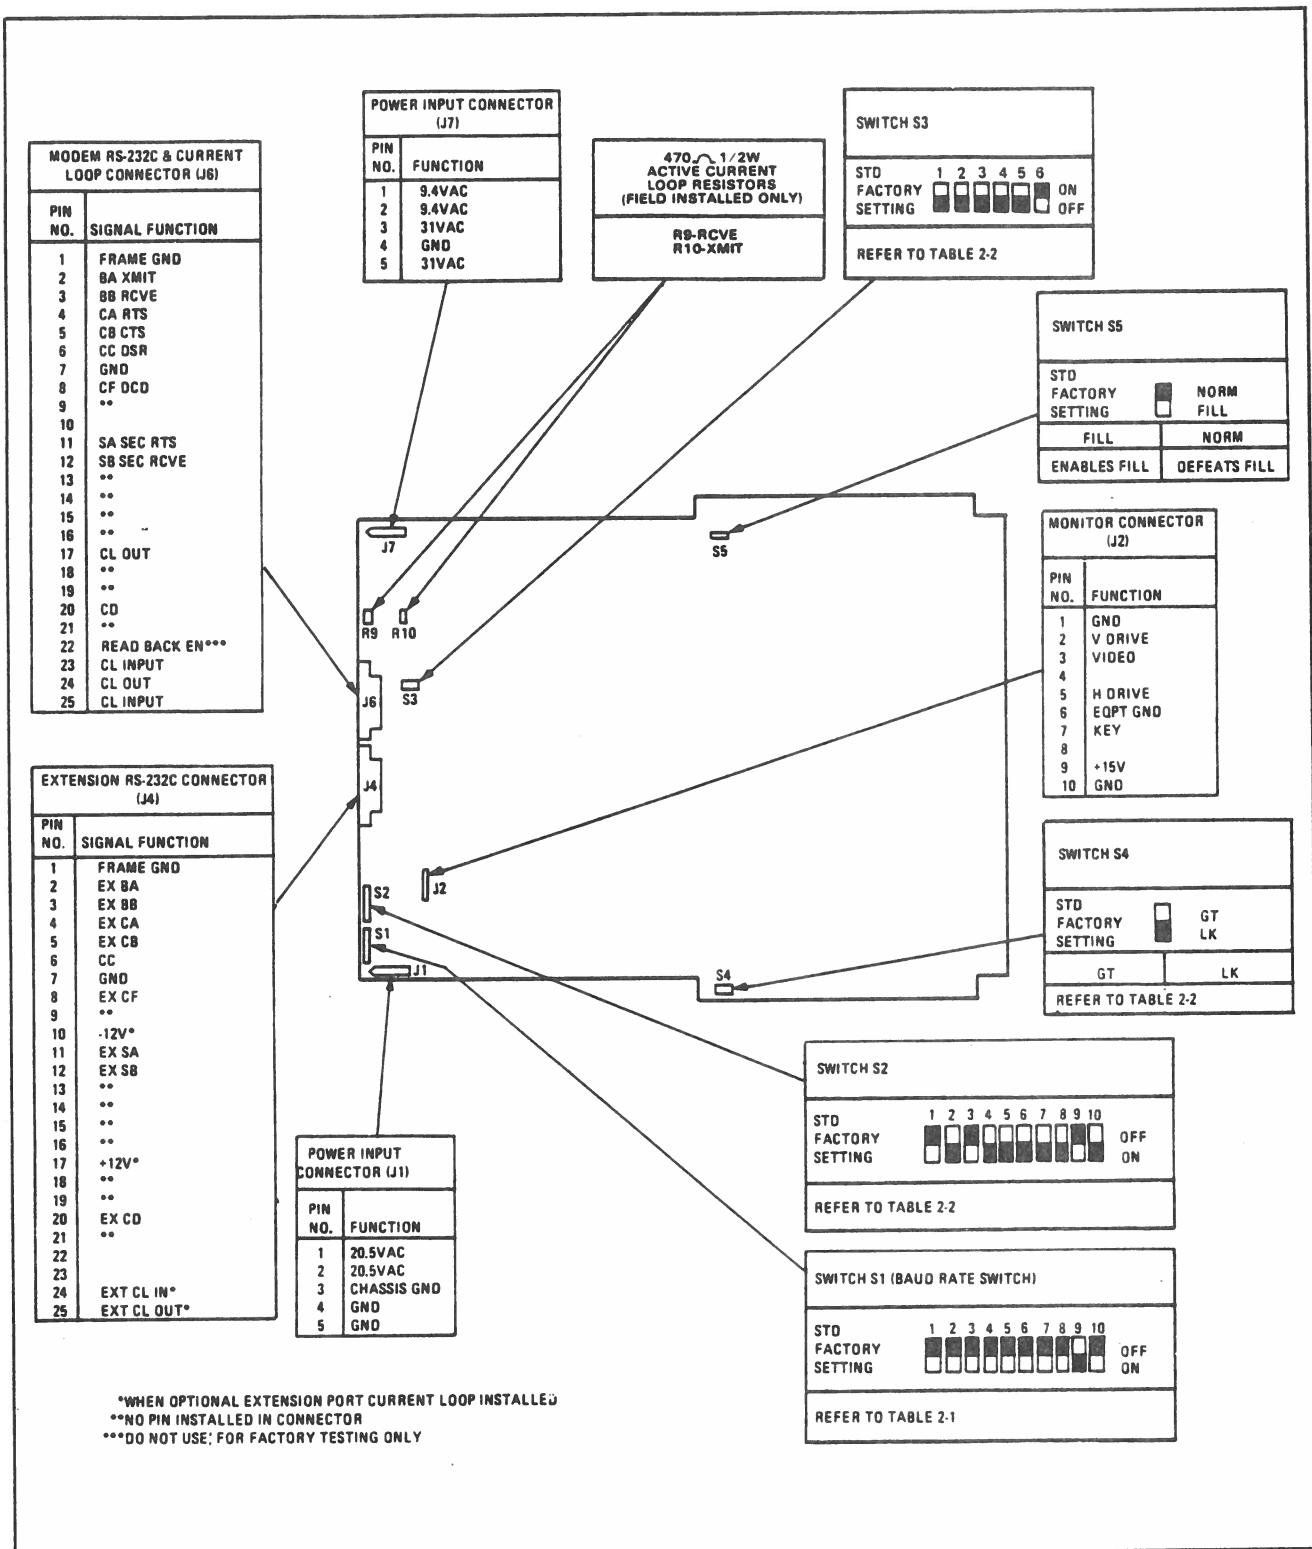

Figure 2-1. ADM 5 Connector and Configuration Switch Locations
DIP switches located on the main logic board are provided for establishing the default state of selected system operating characteristics. These switches are initially set at the factory in accordance with customer requirements, as expressed on the Terminal Ordering Form. Any required switch settings should be made before attempting to operate the terminal. Figure 2-1 shows the location and identity of the configuration control switches, as well as connector/pin designations. Tables 2-1 and 2-2 describe the function and factory setting of each switch.
The ADM 5 may be cabled directly to a local computer, or it may be connected via telephone data lines to a remote computer located anywhere in the world. Remote computer connections require the use of a modem or data set. Refer to figure 2-1 for the connector/pin assignments for the MODEM and EXTENSION ports. Figure 2-2 shows a typical ADM 5 application.
2. Connect the interconnect cable(s) using the appropriate information in figure 2-1 and 2-2.